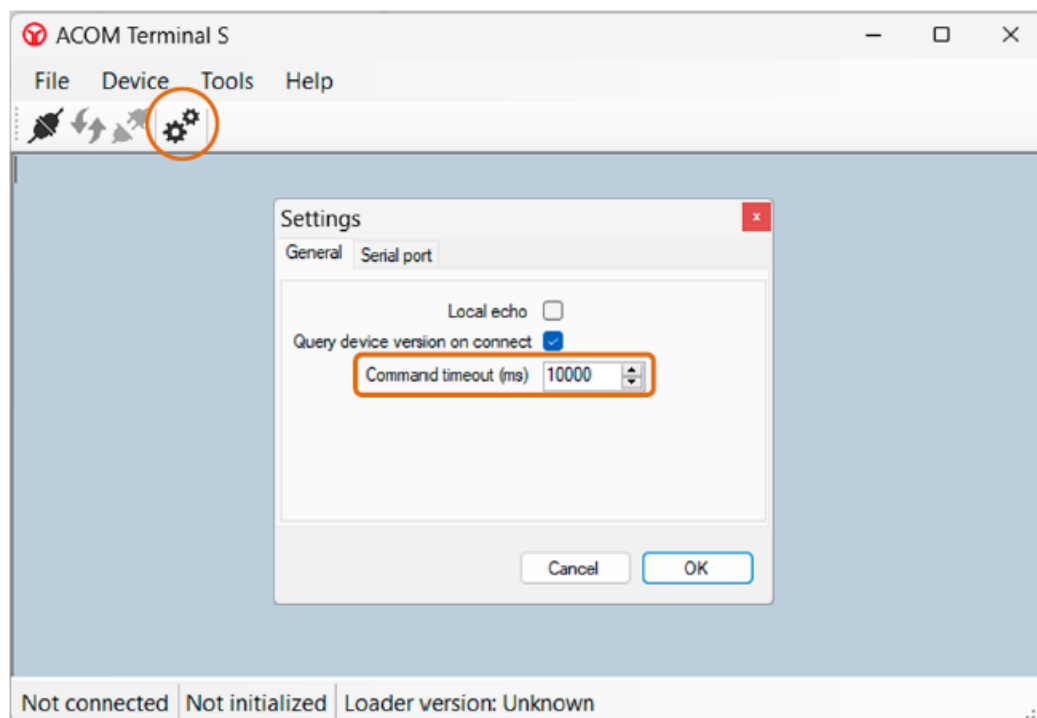

Figure 1-11 | Terminal S – Tools -> Setting -> General menu
- Open the Settings window by clicking on the Settings icon (two gears) or use Tools -> Settings from the menu bar. In the Settings window -> tab General, configure the settings as shown in Figure 1-11 | Terminal S – Tools -> Setting -> General menu: – Command timeout (ms) 10000;